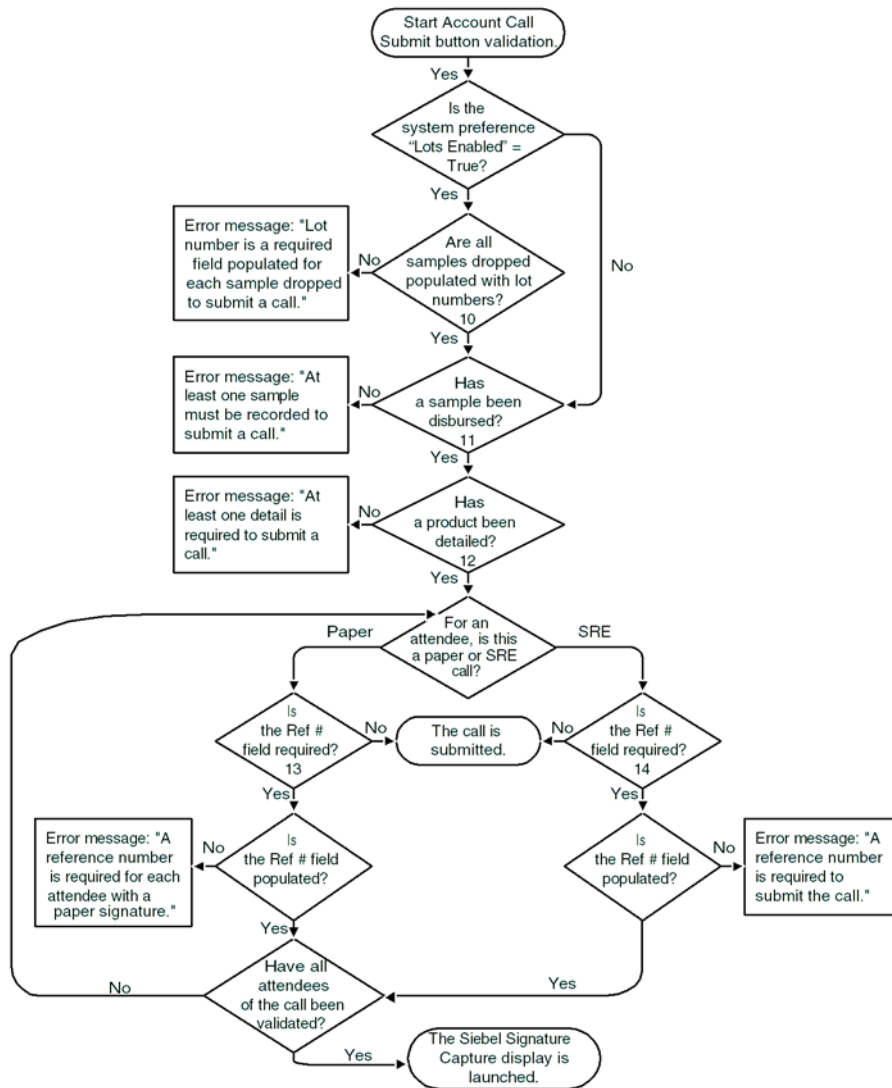

Figure 3. Default Validation Logic Flowchart for Account Call Submit Button
- Account Call Submit button, Figure 3 on page 80